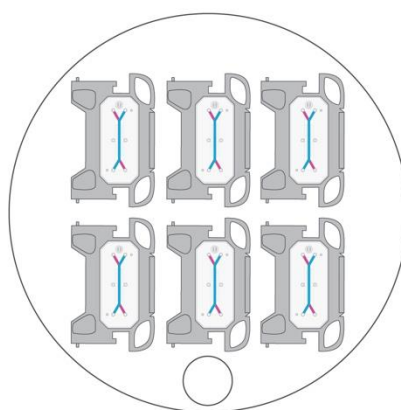

Figure 1 Proper orientation of Organ-Chips in 150 mm dish
2. Open the packaging carefully, and lay out 6 chips in each sterile 150 mm dish. Note: For ease of workflow, align all chips facing the same direction in the 150 mm dish. To properly orient the chips, ensure the tab of the carrier is facing to the right, and all chips are in the same orientation. (See Figure 1)